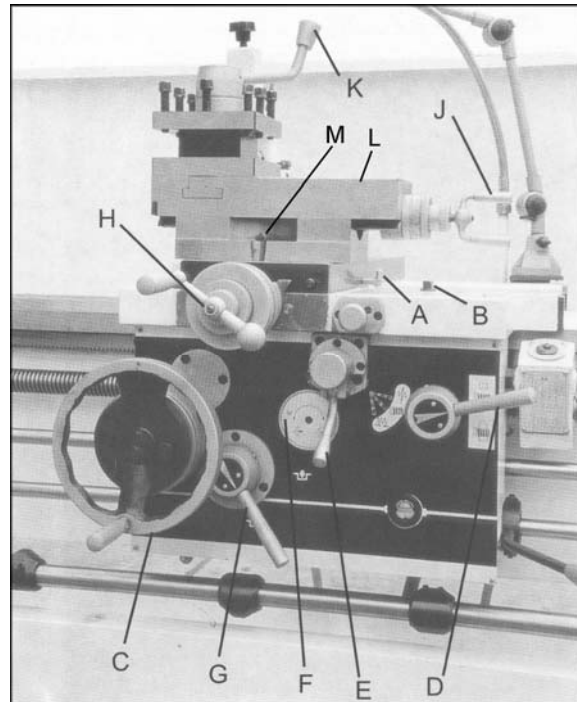

Figure 13
11. **Half Nut Lever (D, Figure 13):** Located on the front of the apron assembly. Used for threading.
12. **Feed Engage Lever (G, Figure 13):** Located in the front of the apron assembly. Pull lever up to engage. Push lever down to disengage.
13. **Adjustable Feed Clutch (F, Figure 13):** When the machine is overloaded, it can slip. Then cutting rate must be reduced. **Note:** This setting has been calibrated at the factory and should not need adjustment. If adjustment ever becomes necessary, follow the diagram on the front of the apron.
14. **Cross Traverse Handwheel (H, Figure 13):** Located above the apron assembly. Clockwise rotation moves the cross slide toward the rear of machine.
15. **Compound Rest Traverse Handle** (J, Figure 13): Located on the end of the compound slide. Rotate clockwise or counterclockwise to position.
16. **Tool Post Clamping Lever** (K, Figure 13): Located on top of the tool post. Rotate counterclockwise to loosen and clockwise to tighten.